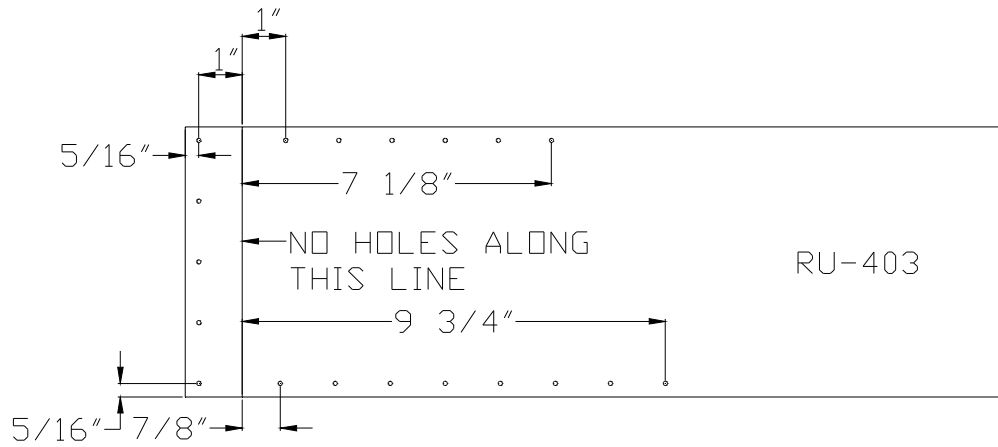

Figure 4.3.3
- 3) Layout and drill #40 rivets lines on the two RU0403 Tip Skins. Refer to figure 4.3.3 for locations and dimensions. **NOTE:** You will draw a line 1 5/16" across the part from one end. Do not drill holes on this line at this time.